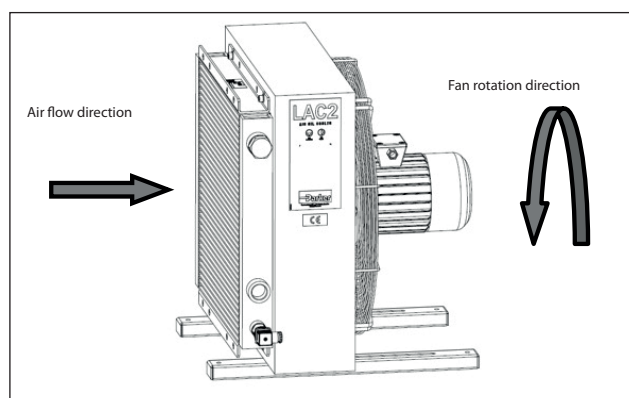

Fig. 25
6. In operation, check that when the fan is turned on, the direction of rotation and air flow match with the diagram in Fig. 25.